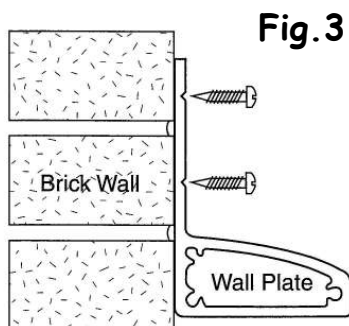

Fig.3
Step 1: Fit the aluminium wall plate (Ref. 290). The wall plate can accommodate all our structural bar systems at angles ranging from 5° to 25° (Fig.3). For a neat finish fix an end plate to each end of the wall plate.